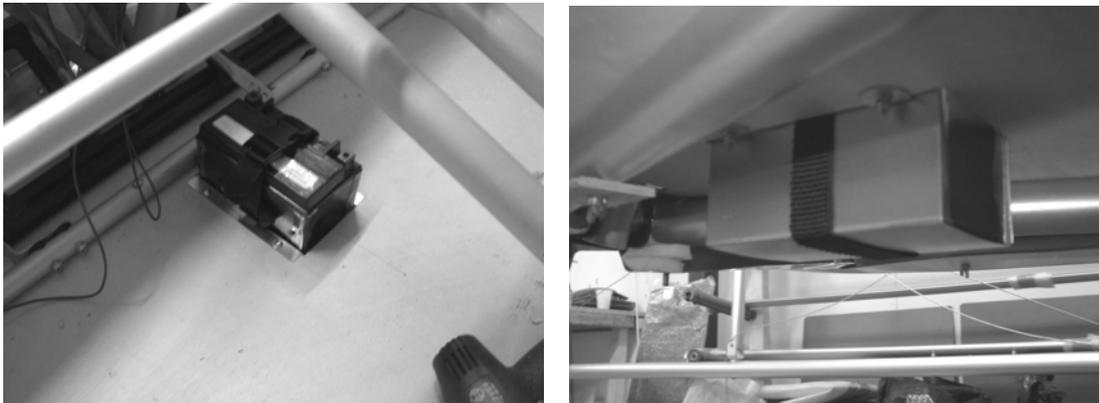

Figure 45; battery location.
*The hole is located on the centreline, approximately 1cm back from the rudder pedal mounting bar **tu18**. The hole is 15cm long by 9cm wide, Figure 45.*